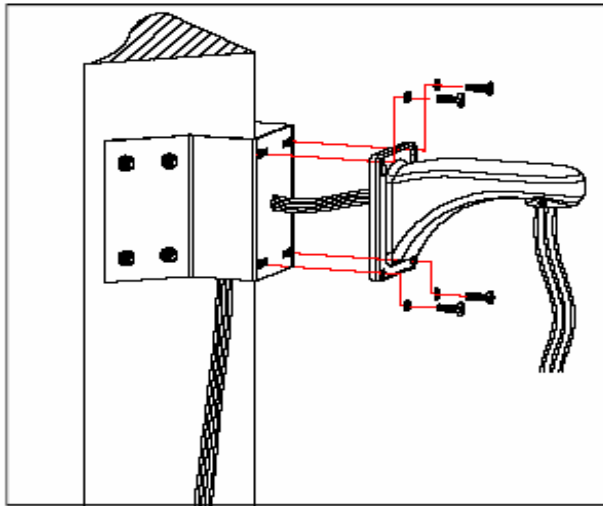

Fig 7
c. As shown in fig 7, fix the wall hanging bracket with all cables power through it on the corner mounted attachment.